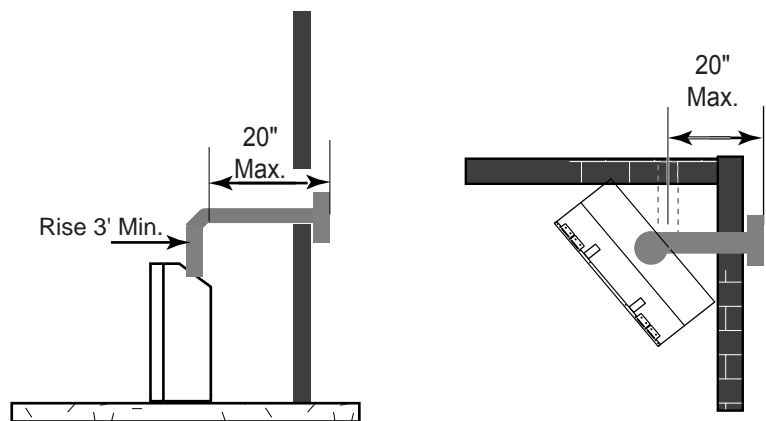
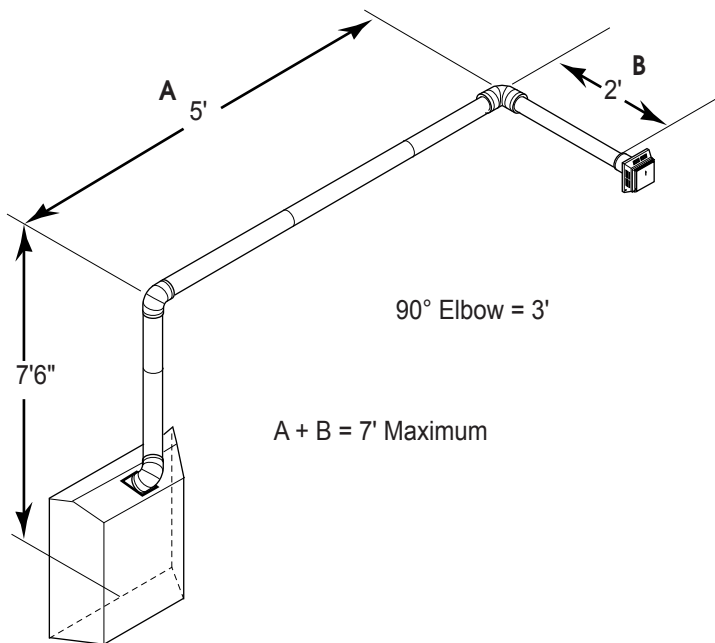

Figure 19 - Maximum Horizontal Run with 3 foot rise
Figure 21 - Maximum Vent Run with Elbows
- If a 90° elbow is used in the horizontal vent run (level height maintained) the horizontal vent length is reduced by 36" (914 mm) (Fig. 21 A and B) This does not apply if the 90° elbows are used to increase or redirect a vertical rise. See Figure 19.
2. Remove soil to a depth of approximately 16" below base of snorkel. Install drain pipe. Install window well (not supplied). Refill hole with 12" of coarse gravel leaving a clearance of approximately 4" below snorkel. *See Figure 21.*